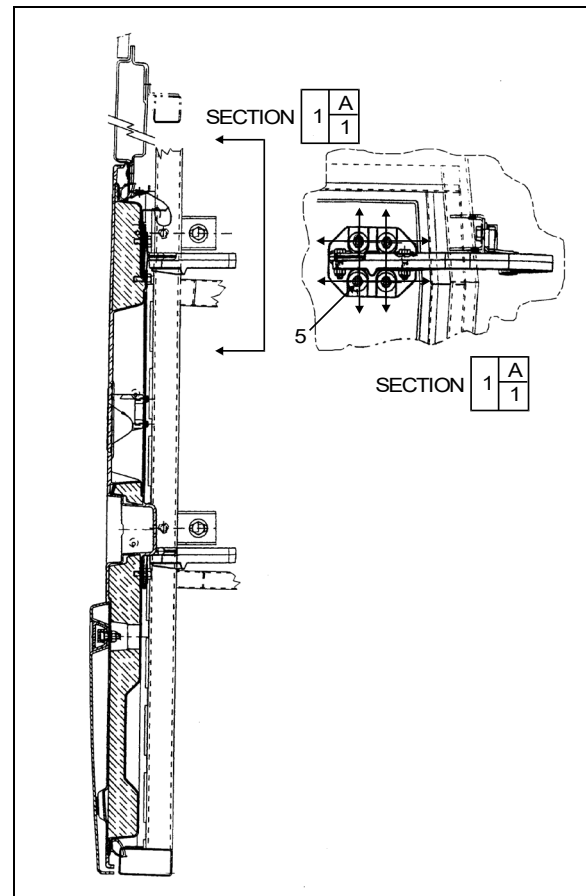

FIGURE 93: FRONT SERVICE DOOR
7. Loosen screws (5, Figure 93) to allow the door to be shifted "UP or DOWN".